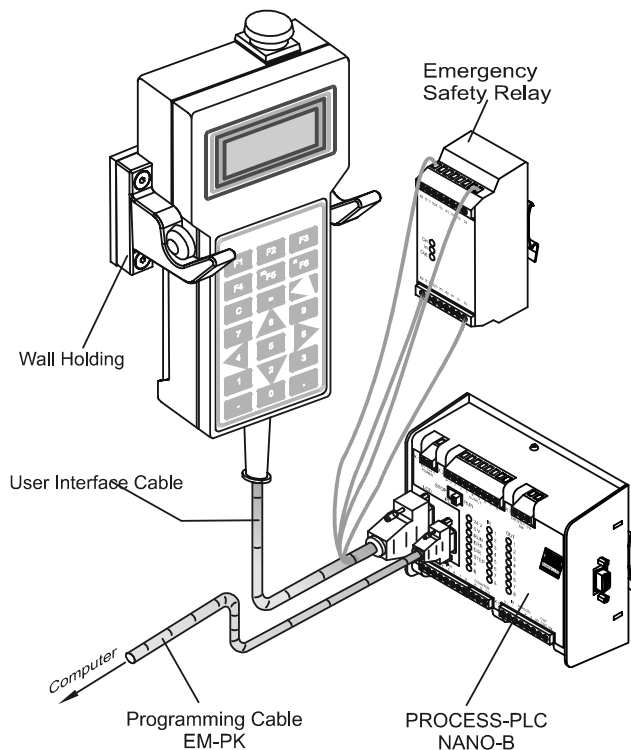

Fig. 2: Example: Connection of LCD 54 with PROCESS-PLC NANO-B
- Establish a permanent connection from the LCD 54 to the PROCESS-PLC and to the emergency safety relay with the user interface cable, see Abb. 2, Seite 12.